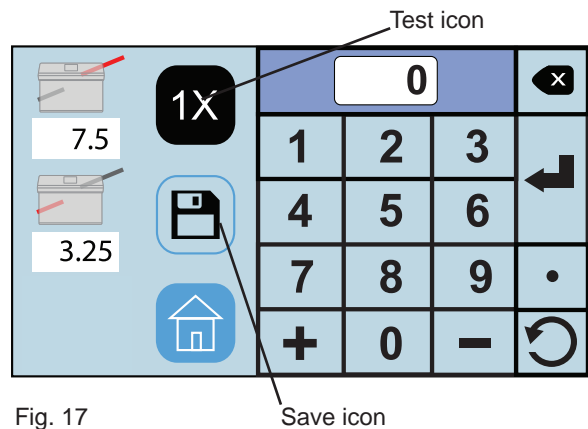

Fig. 17
- With paper loaded in the feeder press the test icon  (Fig. 17) to check that the fold settings are correct. To adjust the settings repeat steps 1 and 2.